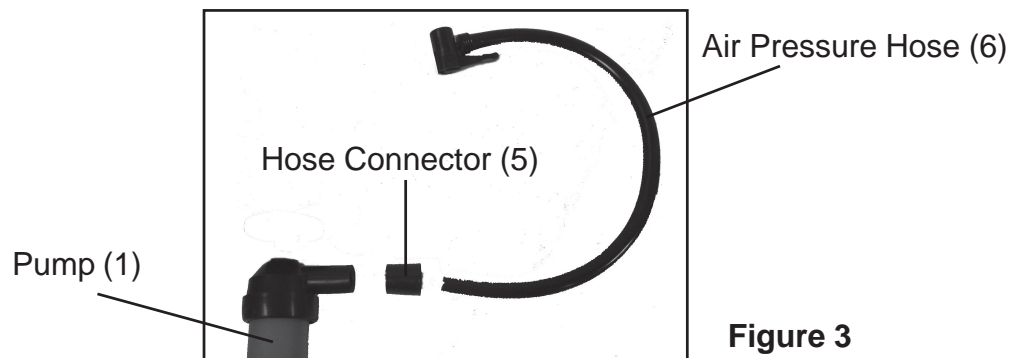

**Figure 2**
1. Follow Steps 1-2 and then insert the Dipstick Connector (4) into one end of the Dipstick Tube (7). Insert the Dipstick Connector (4) into the end of the Intake Hose (2). See Figure 2.